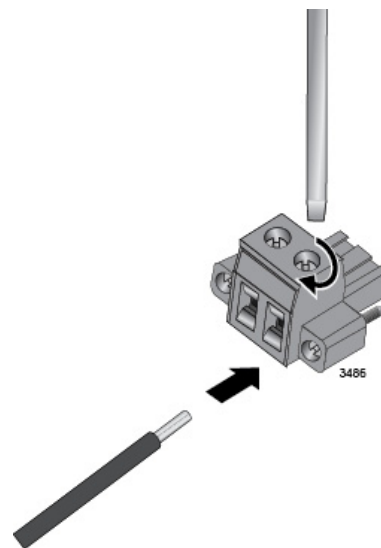

Figure 37. Inserting the RETURN Wire
6. Insert the black RETURN wire into the right connector and secure it by tightening the captive screw with a flat-head screwdriver. Allied Telesis recommends tightening the screw to 5 in-lbs. Refer to Figure 37.